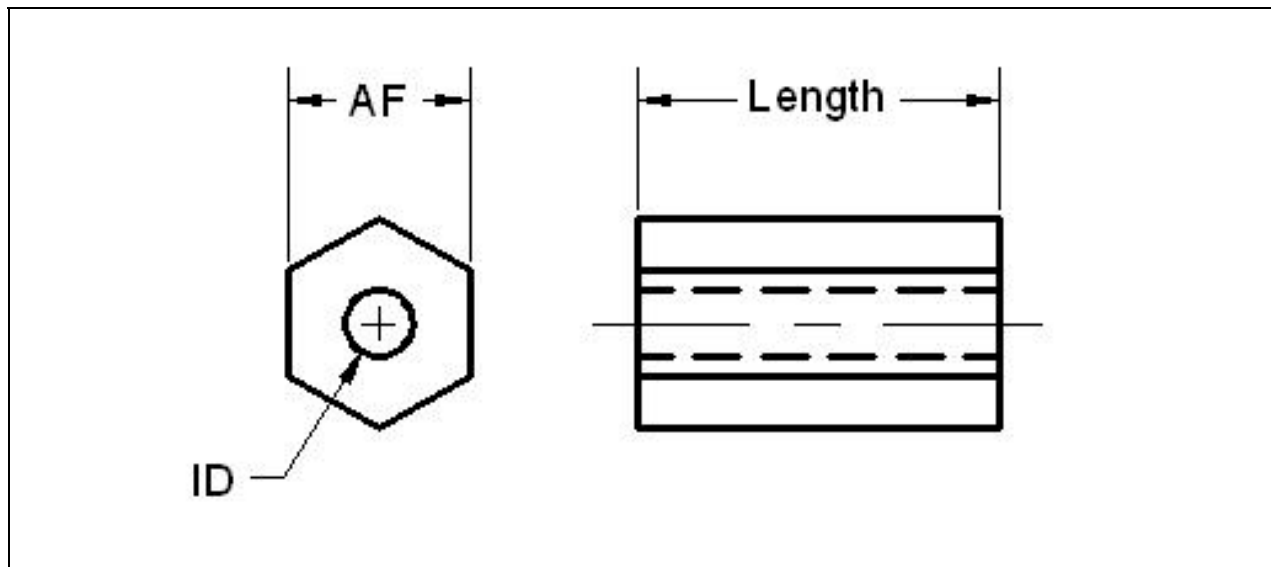

Figure 9.11 – Creating the Standoff Form Image in AutoCAD
As in previous chapters, this form will have a picture of the part that we will create automatically, so we need to make a drawing of part in AutoCAD. Dimension the drawing as we do in any other drawing, but we will use the Edit Text tool to remove the actual dimension and write in the variable name that matches the textbox label. In Figure 9.11, we show dimensions that associate with the across flats (AF), inside diameter (ID) and Length textboxes. When the drawing is finished, we need to save the drawing as an image file. Use the **Saveimg** command to save file on the VBA Programs folder. Create a folder named Images in the VBA Programs folder and save the file as the same name as the program for matching purposes, Standoff. We saved the file as a Bitmap with a width of 312 pixels and a height of 210 pixels.